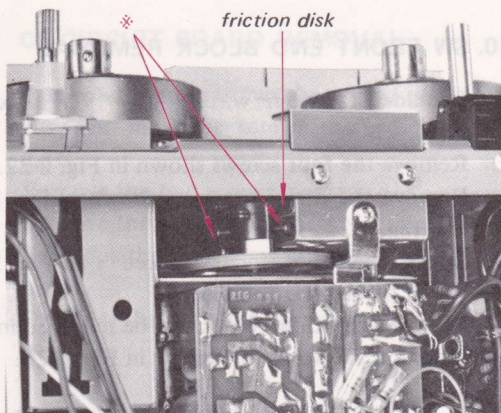

Fig. 2-25
4. Loosen the two screws marked * in Fig. 2-25 which fix the friction disk.